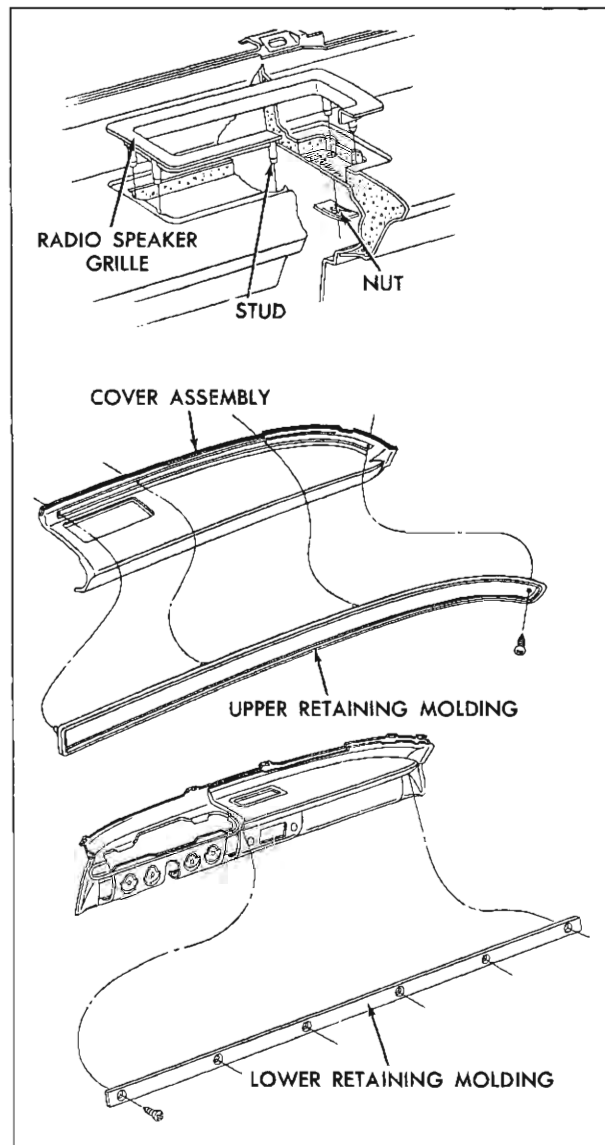

Fig. 11-24 Instrument Panel Cover Installation
1. From underside of instrument panel remove attaching nuts indicated in Fig. 11-24 and remove cover assembly.
The radio speaker is secured to the instrument panel by studs and nuts (Fig. 11-24).
The instrument panel cover assembly covers only approximately three-fourths ( $\frac{3}{4}$ ) of the instrument panel. The cover is secured to the instrument panel by an upper molding, radio speaker grille and lower retainer molding. The upper molding is secured to the upper instrument panel by one (1) exposed screw and studs and nuts. The lower molding is secured by screws (Fig. 11-24).
3. From underside of instrument panel remove radio speaker grille attaching nuts and grille (Fig. 11-24).
4. From underside of instrument panel remove upper cover retainer molding attaching nuts, exposed screw and molding (Fig. 11-24).
5. Remove lower cover retainer molding (Fig. 11-24).